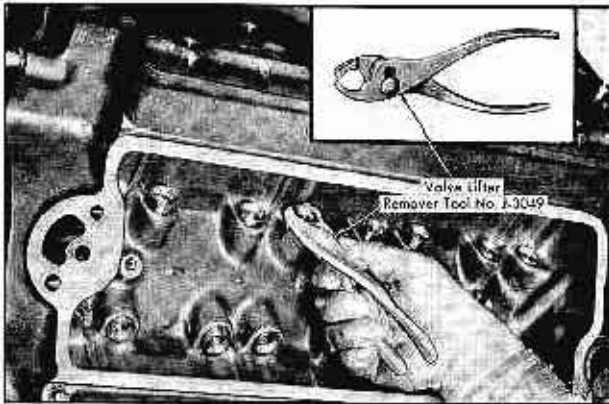

Fig. 10-13 Removing Valve Lifters
8. Using Valve Lifter Remover, Tool No. J-3049, remove lifters from engine (Fig. 10-13), keeping them in order so they can be reinstalled in the same bore from which they were removed.